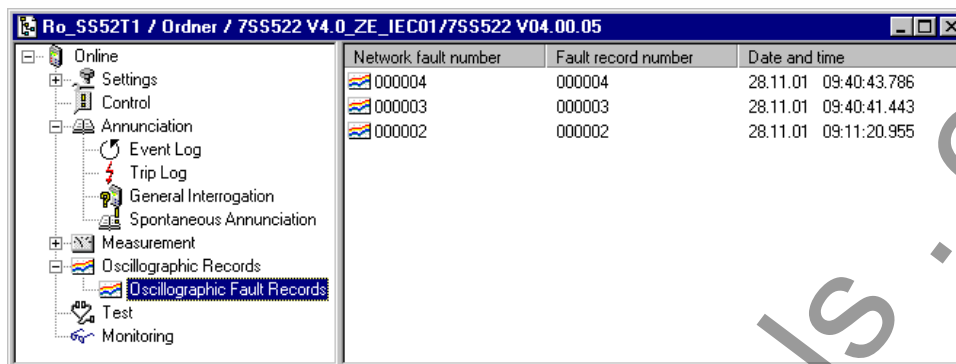

Figure 6-11 Reading out fault data in DIGSI – Example
- Click **Oscillographic Records** in the navigation window. The subdirectory of the Oscillographic Records now shows the item Oscillographic Fault Records in the navigation window (Figure 6-11, page 222). The list view in the right section of the window gives an overview of all available fault records. The fault records are displayed with the network fault number, a fault record number and date and time. The numbers for network fault and fault record are always identical for 7SS52 V4 and for each fault in the power system they are numbered starting from 1 upwards.